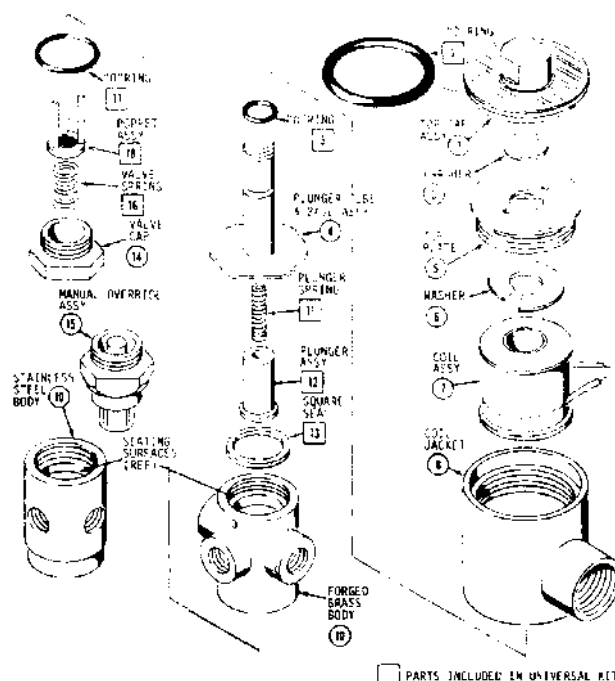

Fig. 3 Exploded View of Typical S333 Explosion Proof Model
8. Unscrew valve cap (14) or manual override assembly (15) (in the case of valve with manual override option) from valve body (10), and remove valve spring (16), "O" ring (17) and poppet assembly (18).
9. Check "O" rings (2) (9) and (17), plunger and valve springs (11) and (16), square seal (13) and seating surfaces (Ref.) for damage and wear. Replace damaged or worn out parts.
10. Reassemble in reverse order of disassembly paying careful attention to exploded view provided in Fig. 3.